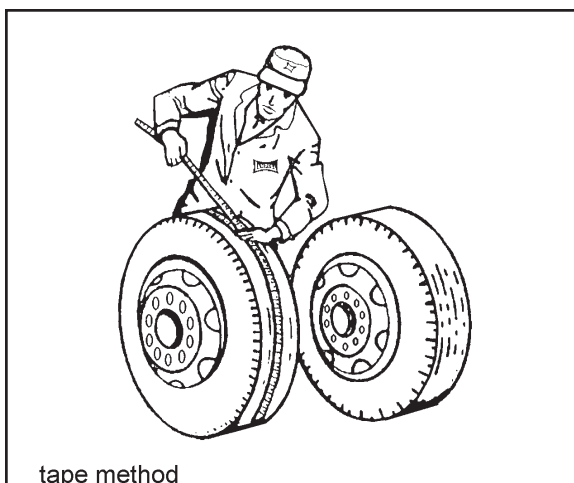

Figure 4-17 Measuring Tape Method
- a. **Tape Measuring Method:** Measure around each tire on the tread surface. A maximum difference of $3/4$ " is allowed between the two mating tires of a dual (**See Figure 4-17**).